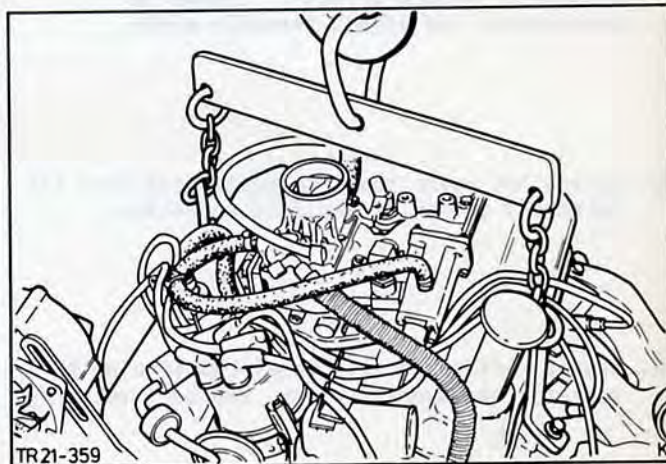

Fig.19. Attach engine lifting bracket.
If pressures are not as specified, first check the oil pump and relief valve, Fig.19, as the potential source of the fault.
18. Attach engine lifting bracket 21-068 to the engine, Fig.19. Undo the two rubber insulators from the engine mounting (2 nuts).